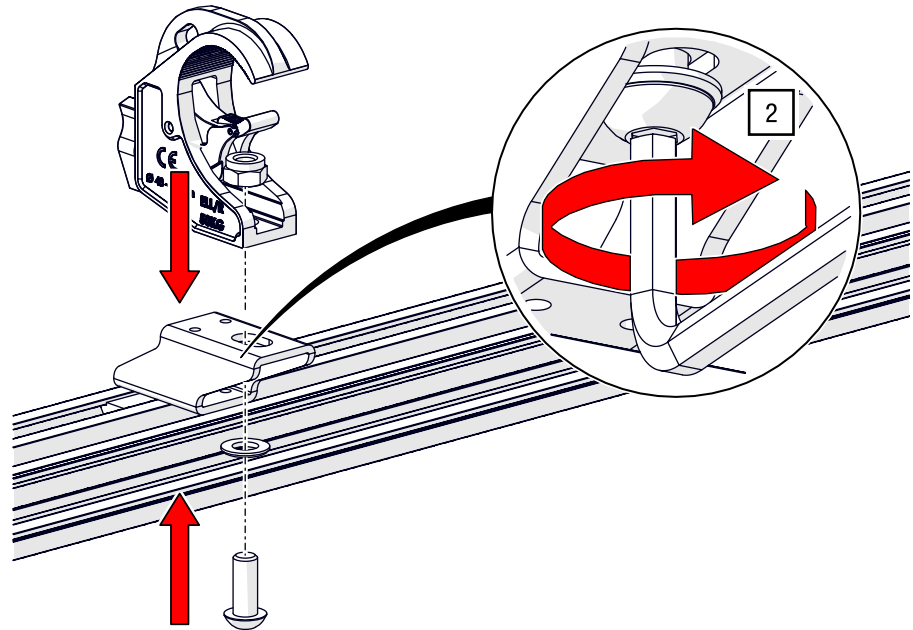

Fig. 52: Mount suspension – Installation with T-slot nut
2. Fasten the G-CLAMP to the suspension with an Allen key AF 8 and 93 Nm (see Fig. 52).